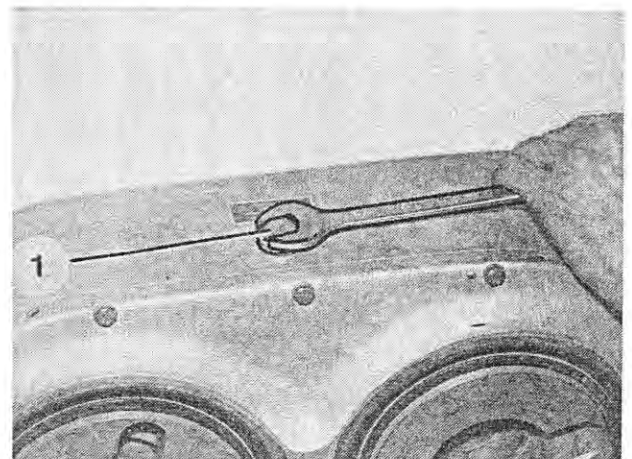

Fig. 81
2. Unscrew the filling plug (Figure 81/1) on the gear box of the worm trough.